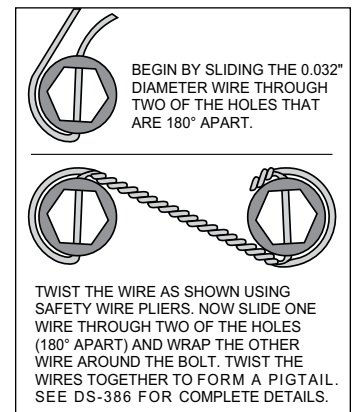

Figure 3. Safety Wire Diagram
- Install the grease seal (16) by pressing into the backside of the hub (14).
- With the larger I.D. side of the rotor (17) facing away from the hat (18), bolt rotor (17) to hat (18) through the backside of the rotor using washers (19) and bolts (20). Apply red *Loctite*® 271 to the bolt threads and torque bolts to 155 in-lb using a criss-cross pattern. For an added measure of security, the bolts may be safety wired using standard 0.032 inch diameter stainless steel safety wire as shown in Figure 3. Please refer to Wilwood's data sheet DS-386 (available at www.wilwood.com/Pdf/DataSheets/ds386.pdf) for complete safety wire installation instructions.